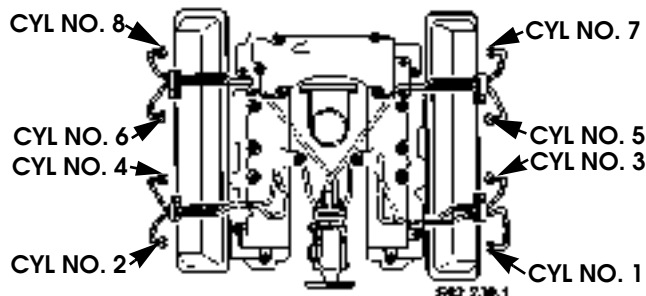

Figure 2-183: Fuel Injector Line Layout
2. Attach fuel lines to injectors and pump. Verify line routing and connection (Figures 2-183 and 2-184).